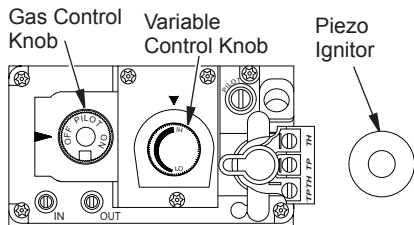

Figure 48 - Control Valve
4. Push in gas control knob slightly and turn clockwise to OFF (see Figure 48).
5. Wait five (5) minutes to clear out any gas. Then smell for gas, including near the floor. If you smell gas, **STOP!** Follow "B" in the safety information above. If you don't smell gas go to the next step.